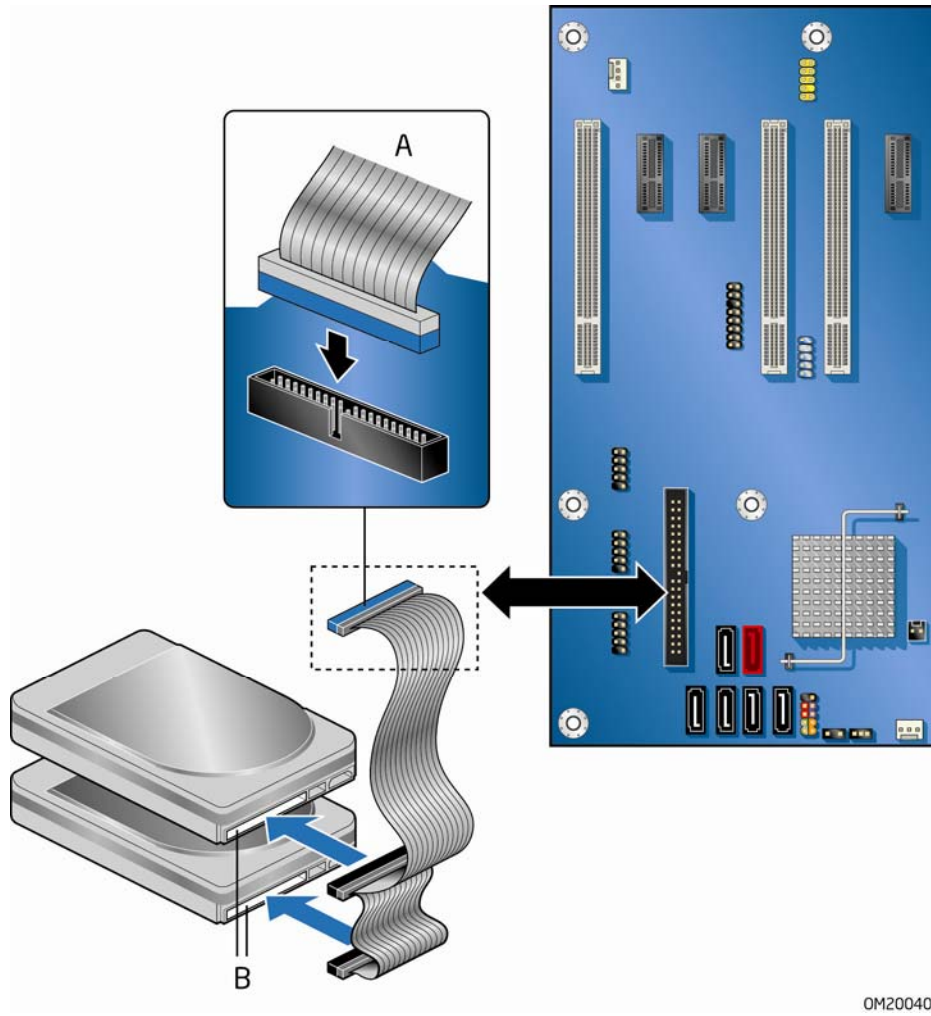

Figure 20. Connecting the IDE Cable
The IDE cable can be used to connect two IDE drives to the Desktop Board. The cable supports the ATA-66/100 transfer protocol. Figure 20 shows the correct installation of the cable.
- Attach the cable end with the single connector (blue) to the Intel Desktop Board (Figure 20, A).
- Attach the cable end with the two closely spaced connectors (gray and black) to the drives (Figure 20, B).